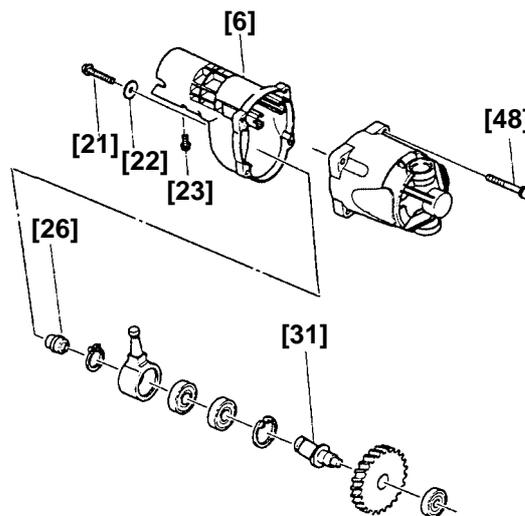

Fig. 2
##### (2) Removal of Gear Cover (B) **[6]** (Figs. 2 and 3)